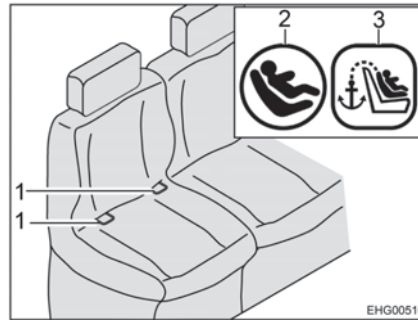
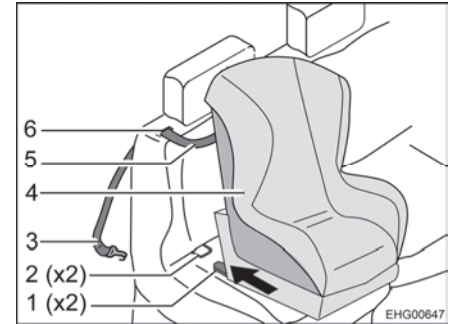

Fig. 14 Seat with Isofix
Fig. 15 Fastening with top tether
- Guide the top tether strap (Fig. 15,5) through the slot (Fig. 15,6) in the cushion of the backrest (next to the headrest).
- Hook the fixing hook (Fig. 15,3) onto the attachment point on the back of the vehicle seat.
- Have the connectors (Fig. 15,1) snap into the retaining clips (Fig. 14,1 and Fig. 15,2). While doing this, a distinctive click must be heard.
- With a strong jerk, check if the child seat (Fig. 15,4) is firmly connected.